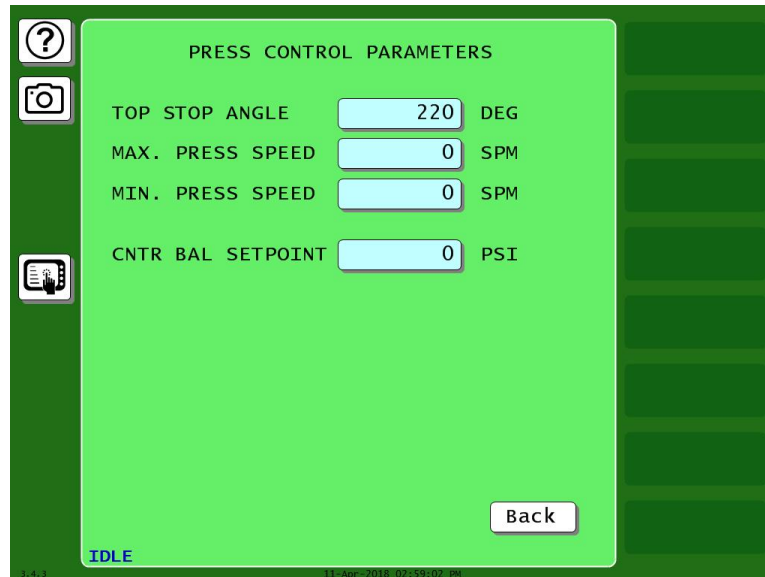
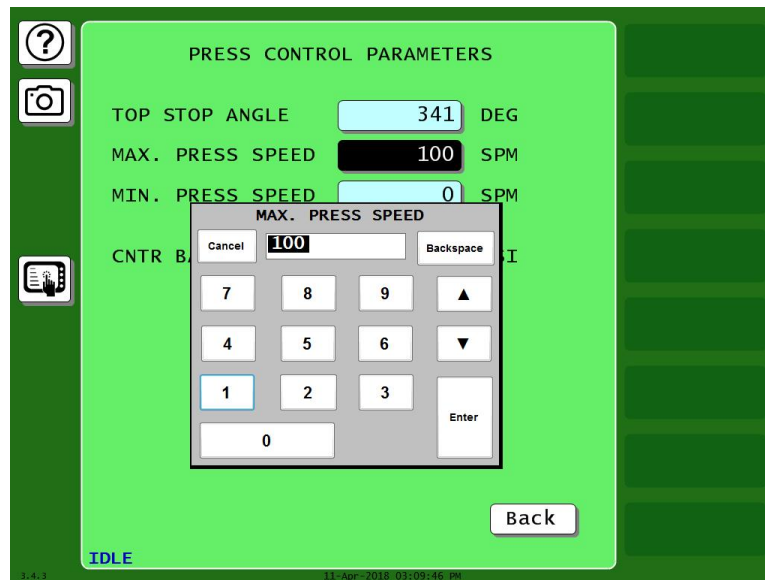

Figure 4-4. Press Control Parameters Screen
Figure 4-6. Change Maximum Press Speed
1. In the Press Control Parameters screen (Figure 4-4), press the entry box next to TOP STOP ANGLE. A numeric entry window appears.
1. In the Press Control Parameters screen (Figure 4-4), press the entry box next to MAX. PRESS SPEED. A numeric entry window appears, Figure 4-6.
1. In the Press Control Parameters screen (Figure 4-4), press the entry box next to CNTR BAL SETPOINT. A numeric entry window appears.